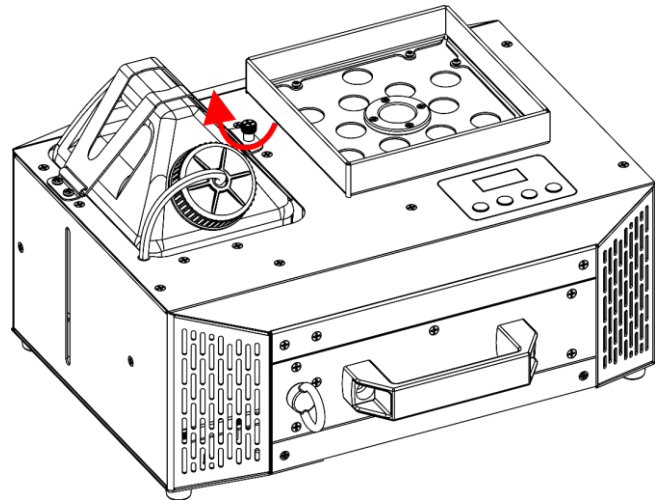

Fig. 37
- 12) Tighten the **safety screw for tank bracket (04)**, as shown in Fig. 37.